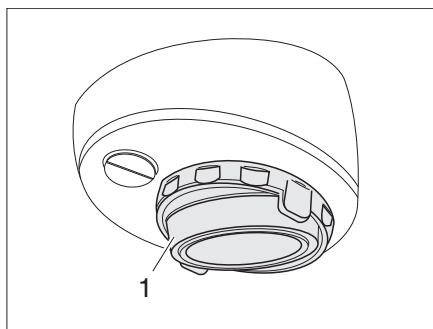

Fig. 108 Surface-mounted halogen light (swiveling)
- Use a suitable tool (e.g. a screwdriver) to lever out and remove the cover (Fig. 108,1).